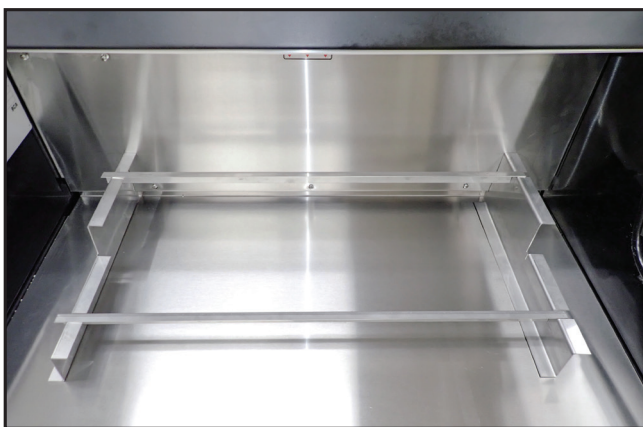

Fig. 1c. Installed shelf risers and shelf supports.
2. Slide the shelf supports into the front most riser slots. See fig. 1c.